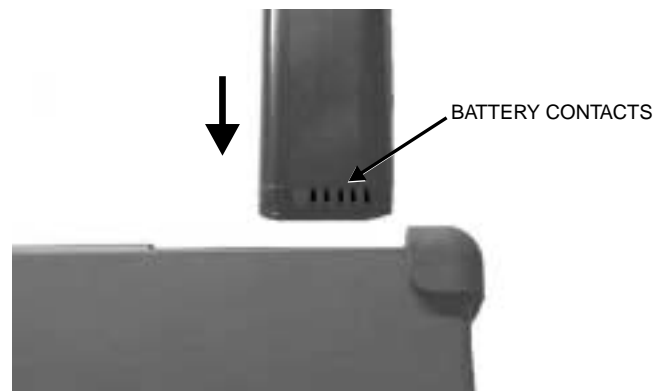

Figure 11. Battery Orientation
5. Replacement is the opposite of removal. Note the orientation of the battery contacts, and be sure to insert the new battery with the contacts facing the rear of the unit (Figure 11).